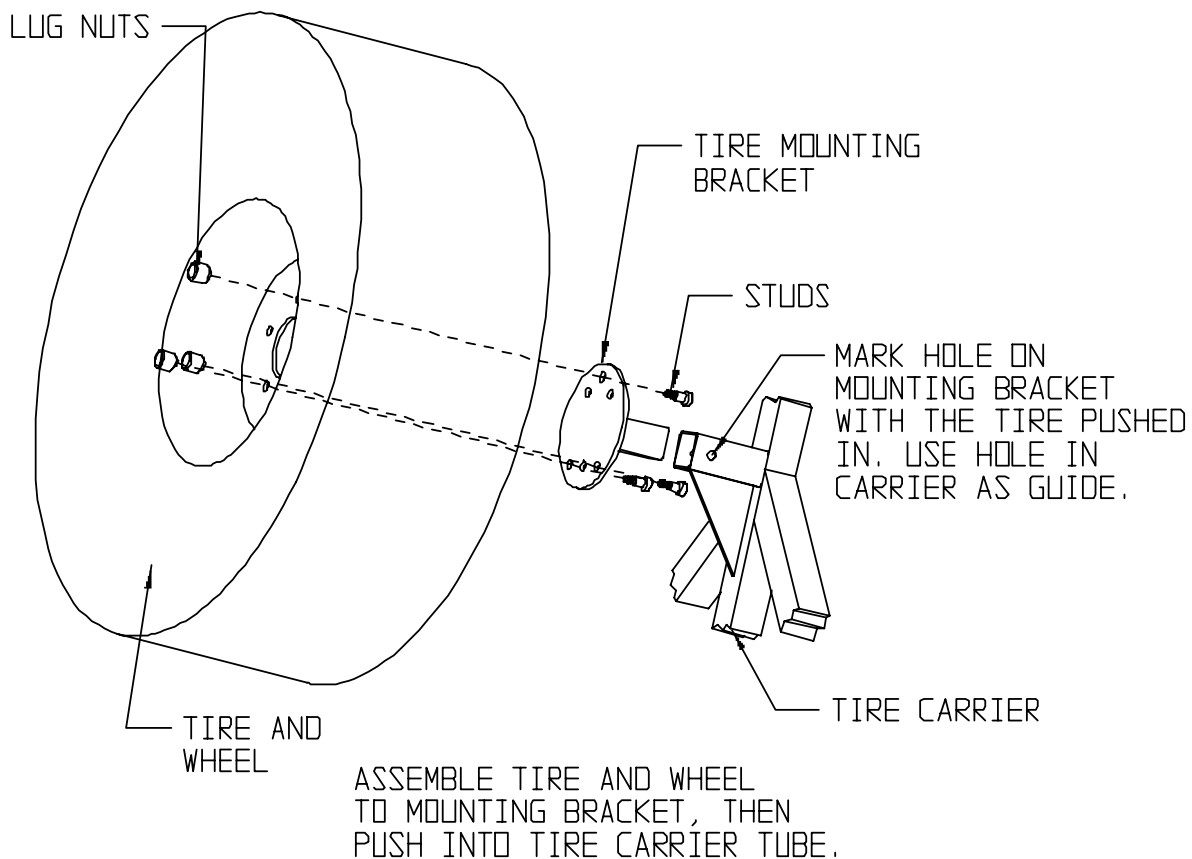

Figure 5
14. Once the studs are installed, attach the tire to the mounting bracket. Slide the tire mounting bracket, on the backside of the wheel, into the bracket mounting tube on the tire carrier. With the tire pushed all the way in, mark the tire mounting bracket using the supplied hole in the tire carrier tube. Remove the tire and tire mounting bracket from the carrier. **See Figure 5.**